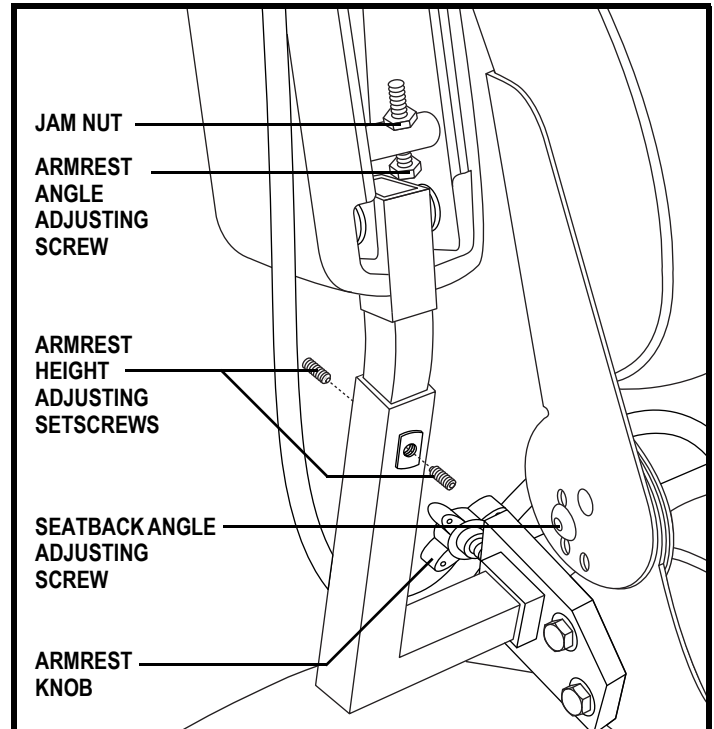

Figure 12. Seatback/Armrest Adjustment
If your power chair is equipped with an adjustable seatback, you can adjust it to four (4) different angles: 90°, 102°, 105°, or 107°. See figure 12.
1. Locate the armrest knob on each side of the armrest receiver bracket. See figure 12.
1. Loosen the two setscrews located on the armrest receiver. See figure 12.